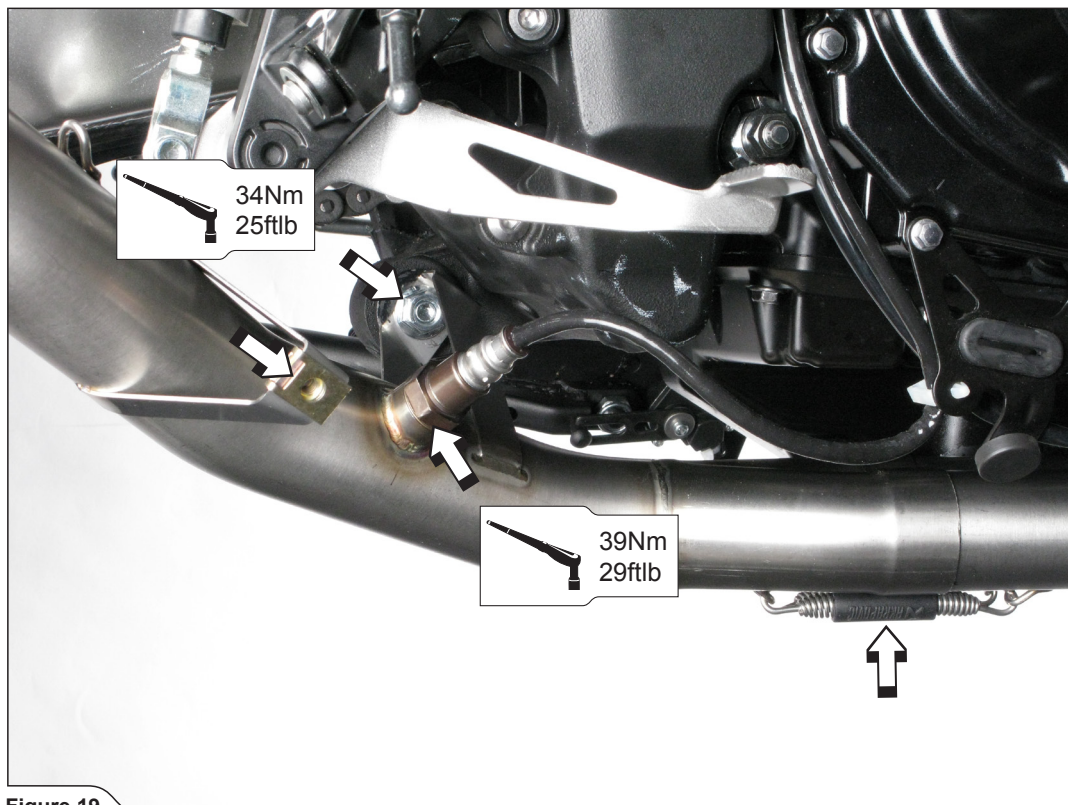

Figure 19
- Slide the link pipe all the way onto the collectors. Attach the springs, the M6 press-on nut, tighten the link-pipes' bracket onto the frame (using Akrapovič bolt and nut) and lambda sensor to a specified torques (**Figure 19**).